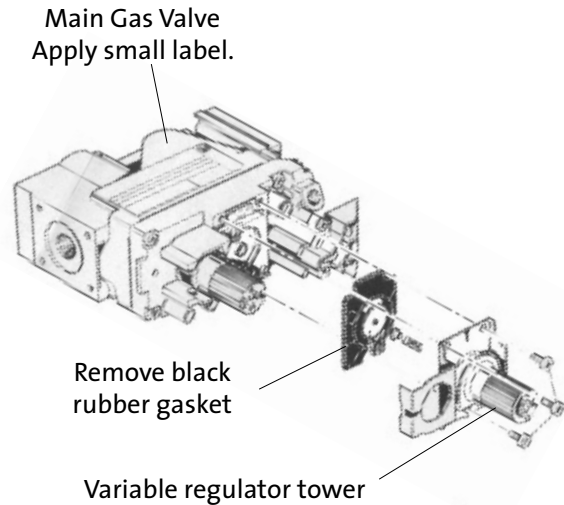

Figure 27. Regulator assembly.
14. **Replace the Variable Regulator.** Using a Torx T-20 screwdriver, remove the three screws from the front of the valve regulator. See fig. 27.
**Remove the Regulator Tower, Gasket, white plastic disk, and Spring.** Remove the black rubber gasket from the valve. See fig. 27.